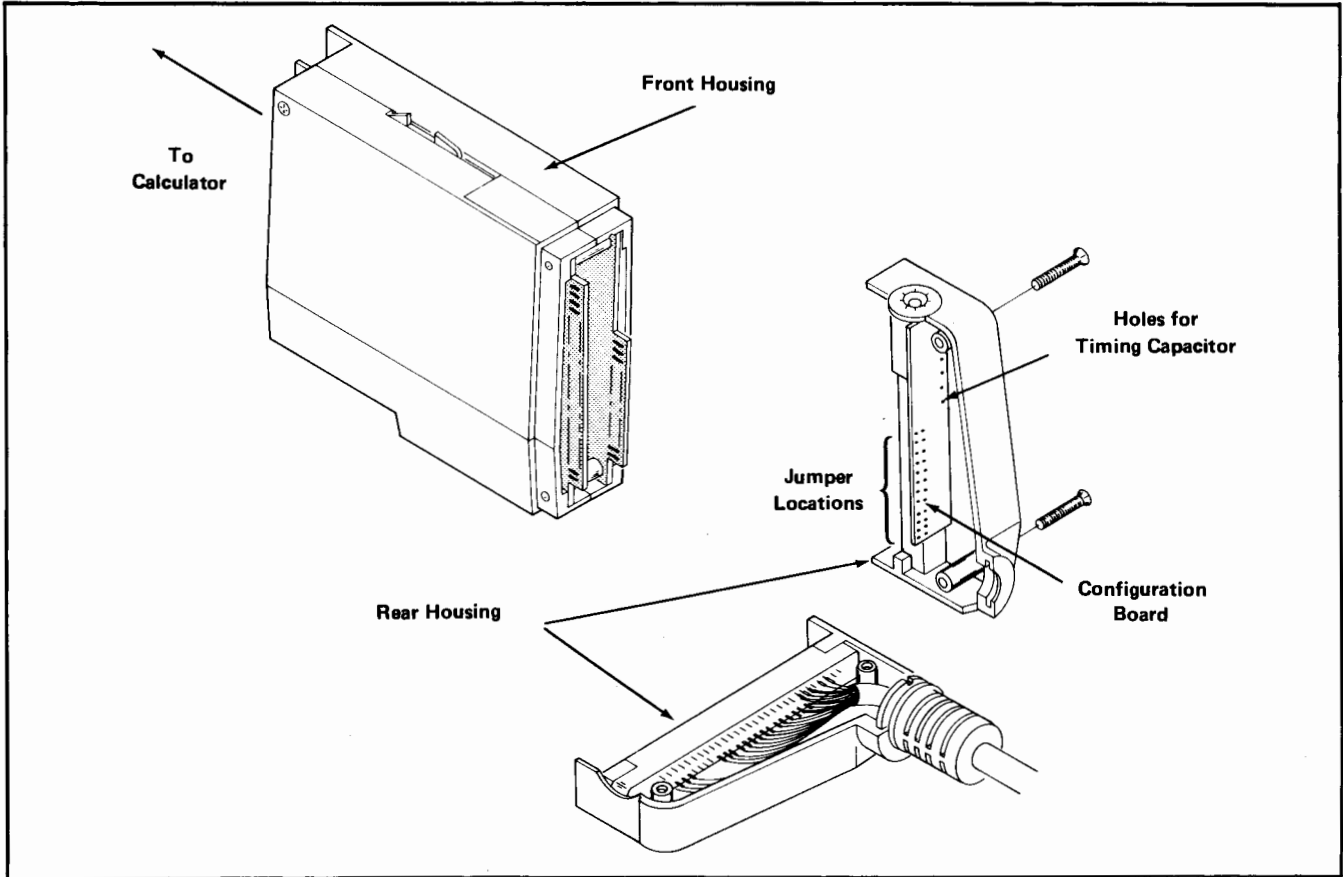

Figure G1-2 98032A Rear Housing & Configuration Board
2. Split the rear housing by removing the two remaining screws in the rear housing, as shown in Figure G1-2.